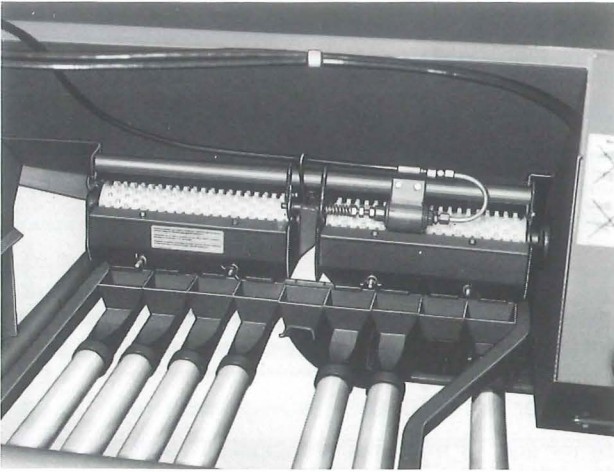

Fig. 15
If the tractor has only one single acting hydraulic valve, individual control of the metering unit clutches from the tractor is possible by using the two-way valve (Fig. 15).
The machines with 15 m-, 16 m- and 18 m-booms are supplied as standard with hydraulic boom lift. For machines with 10 m- and 12 m-booms it is available as special option (Fig. 15).
5.5 Hydraulic boom section spread control (Fig. 15)